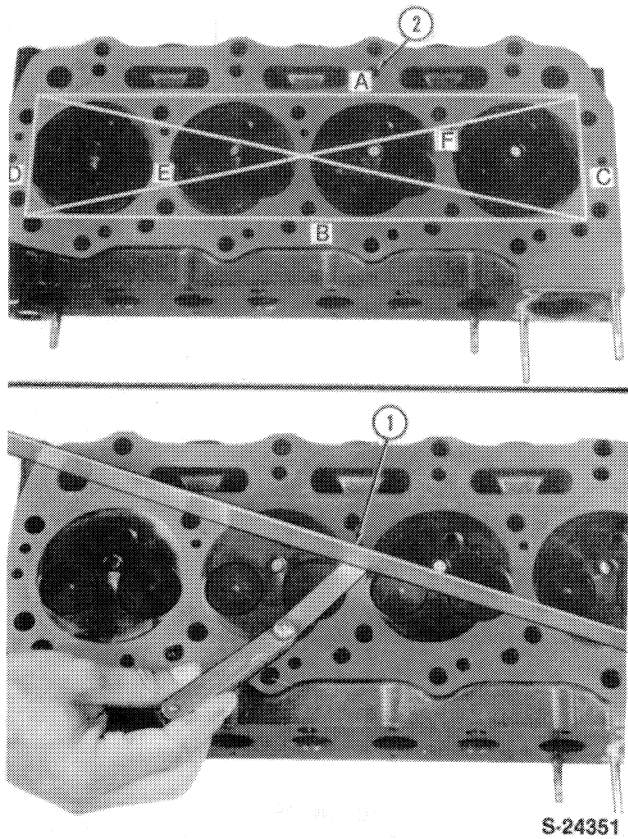

Figure 20
7. Use a straight edge and feeler gauge and check the cylinder head for warp in the area shown at Figure 20.